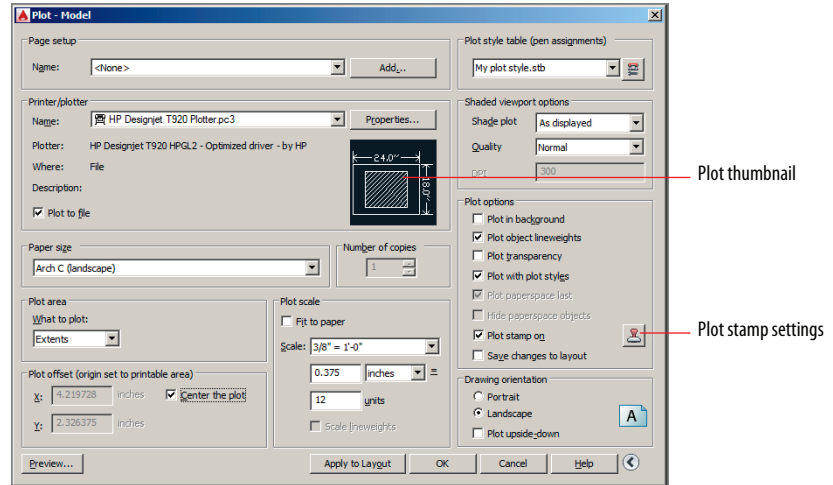
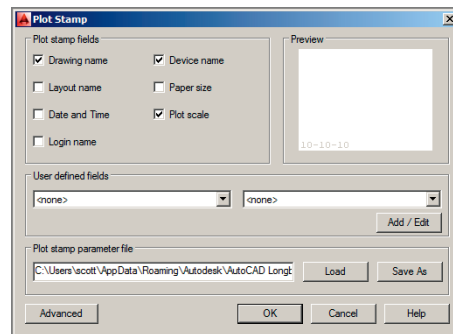

FIGURE 14.15 Configuring the Plot dialog box for output
FIGURE 14.16 Configuring the Plot Stamp feature
Offset area, deselect Fit To Paper in the Plot Scale area, and select $3/8'' = 1'-0''$ from the Scale drop-down menu. Click the More Options button to expand the dialog box. Select My plot style.stb in the Plot Style Table area. Select Plot Stamp On in the Plot Options area (see Figure 14.15).
5. Check Plot Stamp On and then click the Plot Stamp Settings button, as shown in Figure 14.15. Select Drawing Name, Device Name, and Plot Scale in the Plot Stamp dialog box that appears (see Figure 14.16). Click OK.